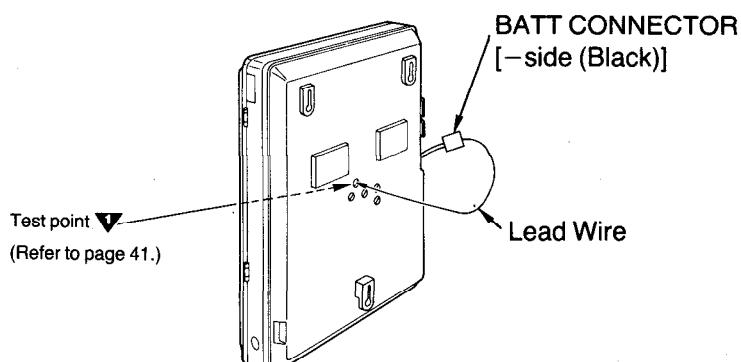

Fig. 16
3. Connect the lead wire. (See Fig. 16)